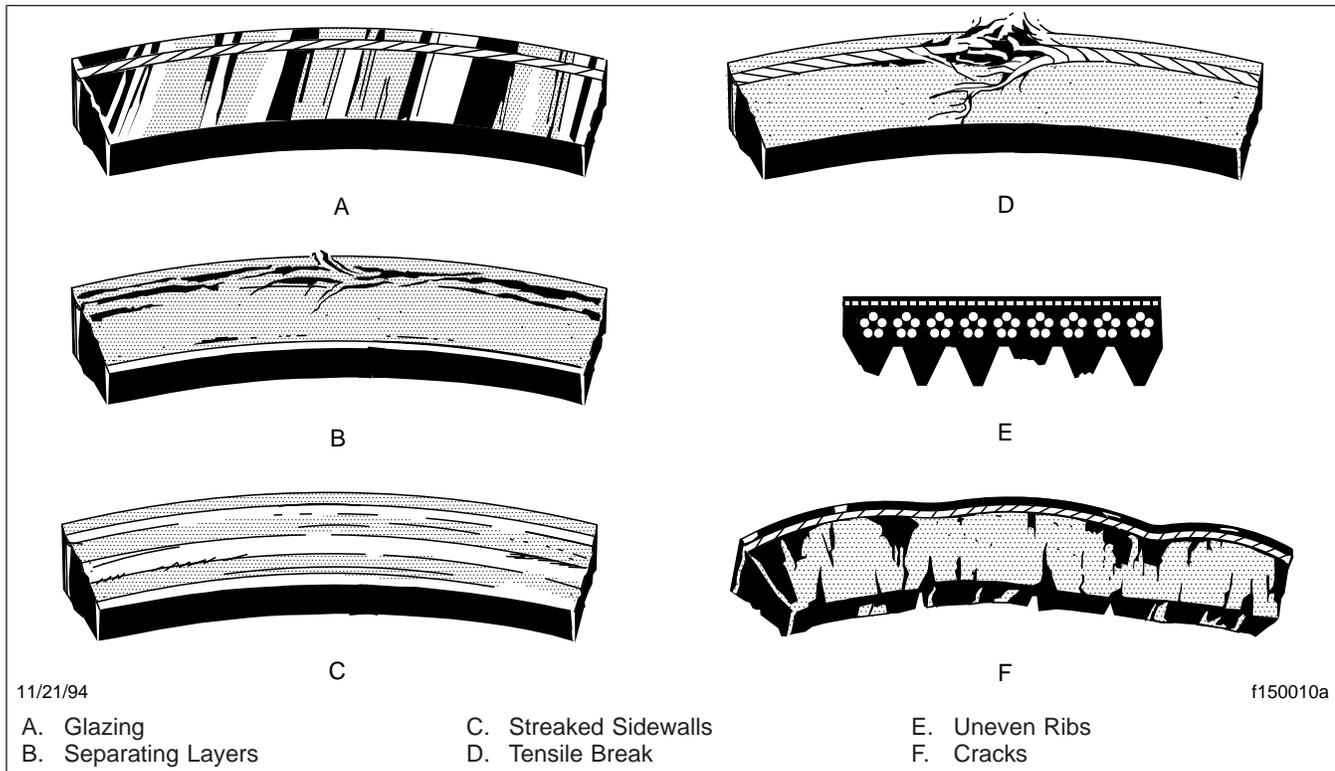

Fig. 2, Drive Belt Replacement Conditions
1. Inspect the belt for glazing. See **Fig. 2**, Ref. A. Glazing is represented by shiny sidewalls, and is caused by friction created when a loose belt slips in the pulleys. It can also be caused by oil or grease contamination on the pulleys.
2. Check the belt for ply separation. See **Fig. 2**, Ref B. Oil, grease, or belt dressing can cause the belt to fall apart in layers. Repair any oil or coolant leaks that are affecting the belts before replacing the drive belts. Do not use belt dressing on any belt.
3. Check the belt for a jagged or streaked sidewall. See **Fig. 2**, Ref C. Jagged or streaked sidewalls are the result of foreign objects, such as sand or gravel in the pulley, or a rough pulley surface.
4. Check for tensile breaks; breaks in the cord body. See **Fig. 2**, Ref D. Cuts in a belt are usually caused by foreign objects in the pulley, or by prying or forcing the belt during removal or installation.
5. Check for uneven ribs on serpentine (poly-V) belts. See **Fig. 2**, Ref E. Foreign objects in the pulley will erode the undercord ribs, causing the belt to lose its gripping power.
6. Check the drive belts for cracks. See **Fig. 2**, Ref F. Small irregular cracks are usually the signs of an old belt.